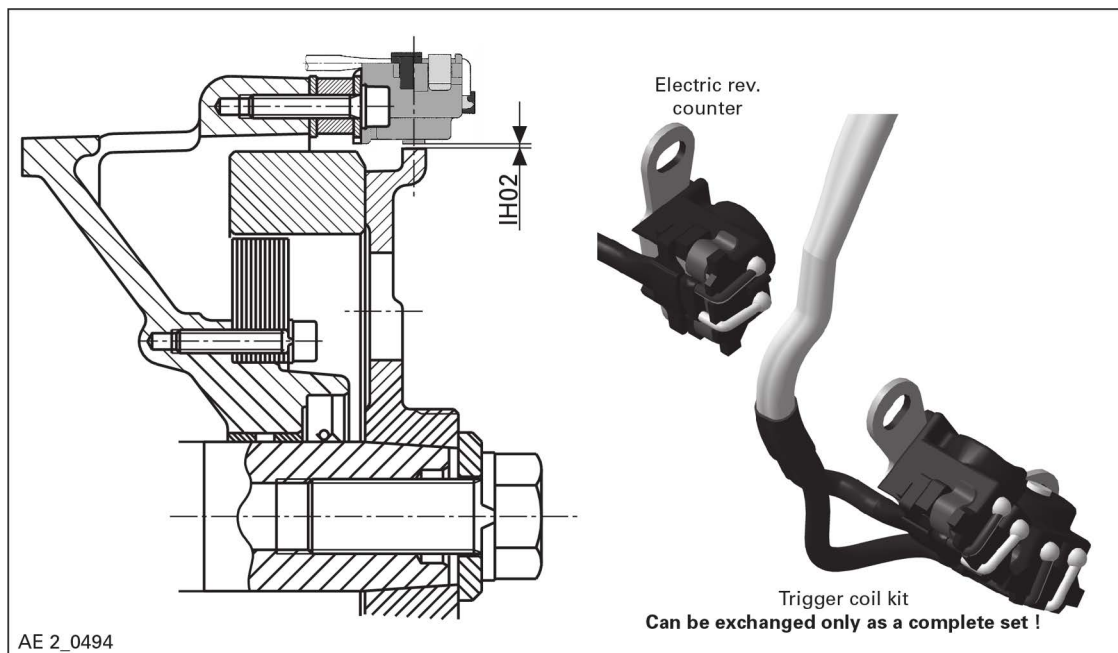

Fig. 5
- Gap of trigger coils (IH02), see Fig. 5.